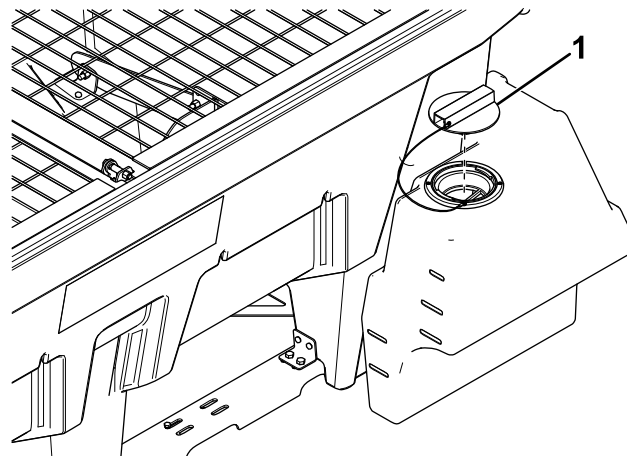

Figure 38
- Clean around the tank cap (Figure 38).